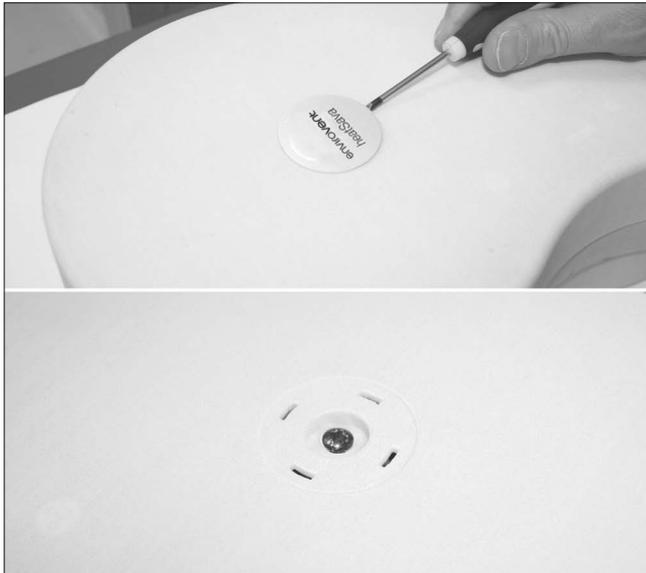

Fig.3A
- 3 Using a screwdriver remove the badge and undo screw (Fig.3A). Next remove the front cover of the unit using the release clips as shown.